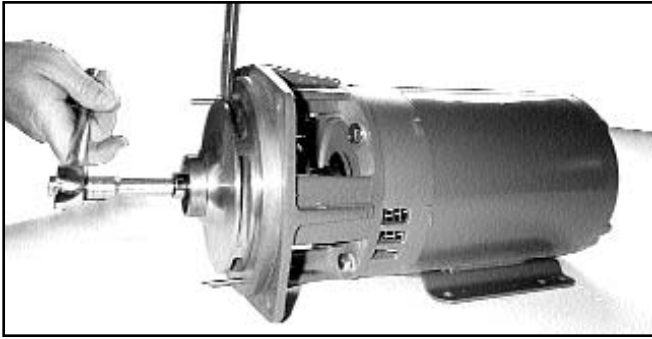

Figure 2
7. Insert a screwdriver in one of the impeller waterway passages and back off the impeller retaining assembly with a socket wrench, as shown in Figure 2.